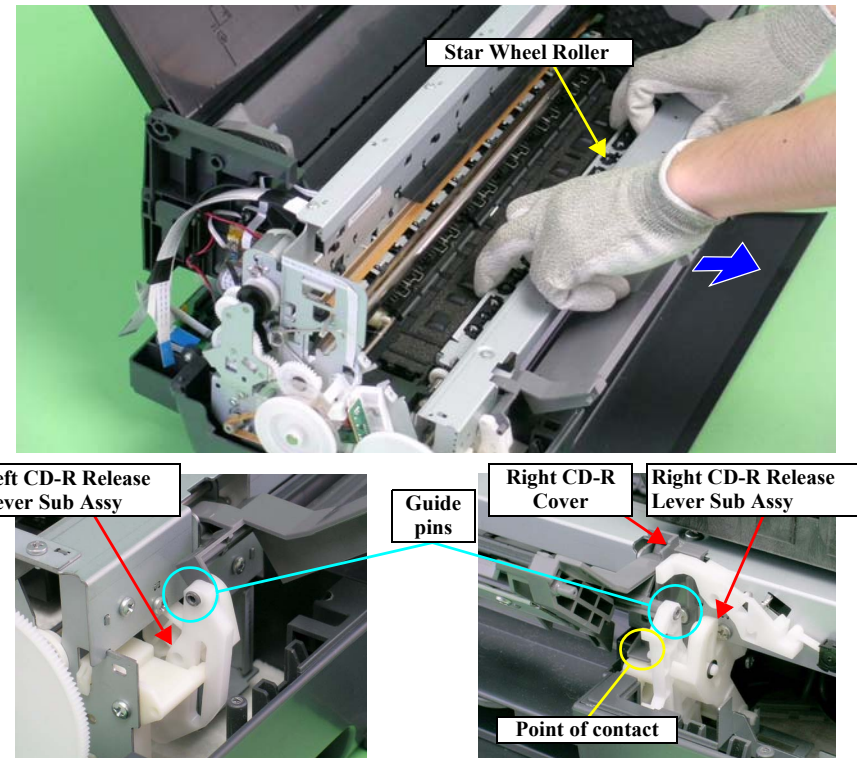

Figure 4-86. Removing the Paper EJ Frame Assy
- Tighten the screws in the order shown in Figure 4-86.